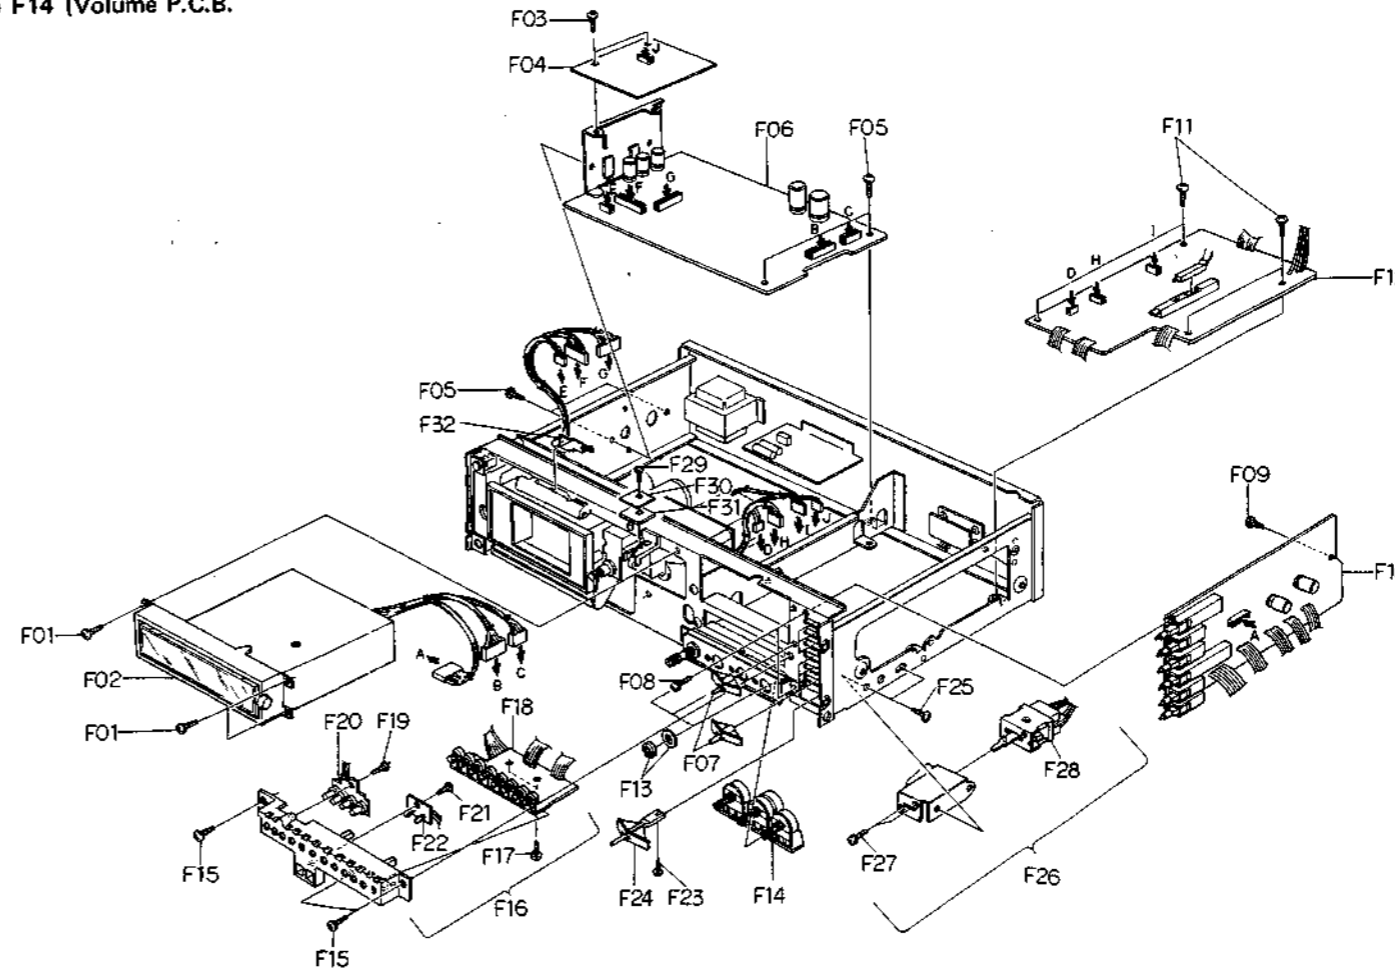

Fig. 2.3
Refer to Fig. 2.3.
- (1) Refer to Fig. 2.3. Remove FL Indicator Ass'y referring to item 2.8.
- (2) Remove F01, then disassemble F02 (Shield Cover).
- (3) Remove F03 (Indicator P.C.B. C Ass'y) by releasing the self-interlocking pin of the P.C.B. supporters.
- (4) Remove F04, then disassemble F05 (Indicator P.C.B. B Ass'y).
- (5) Remove F06 and F07, then disassemble F08 (FL Indicator Holder L), F09 (FL Indicator Holder R) and F10 (Indicator P.C.B. A Ass'y).